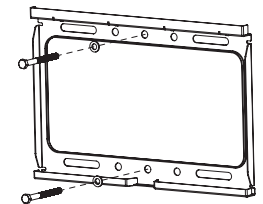

Fig. 2
- Place the wall plate back against the wall and attach it using the lag bolts (A) and washers (B) provided (see Fig. 2). **Do not over-tighten these bolts and do not release the wall plate until both bolts are in place.** Ensure that the wall plate remains level by using the bubble level (N) after tightening the bolts.